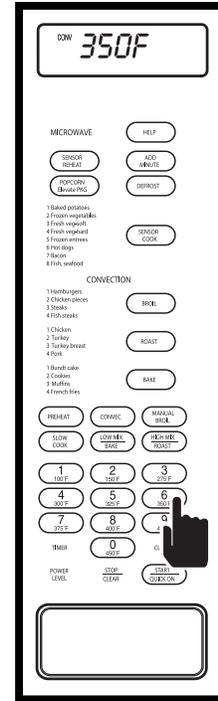

Figure 3-76.
2. Enter desired preheat temperature. Press the number 6 key, "350F - PRESS - START - OR - PRESS - CONVENT" will flash on display. (See Figure 3-76)